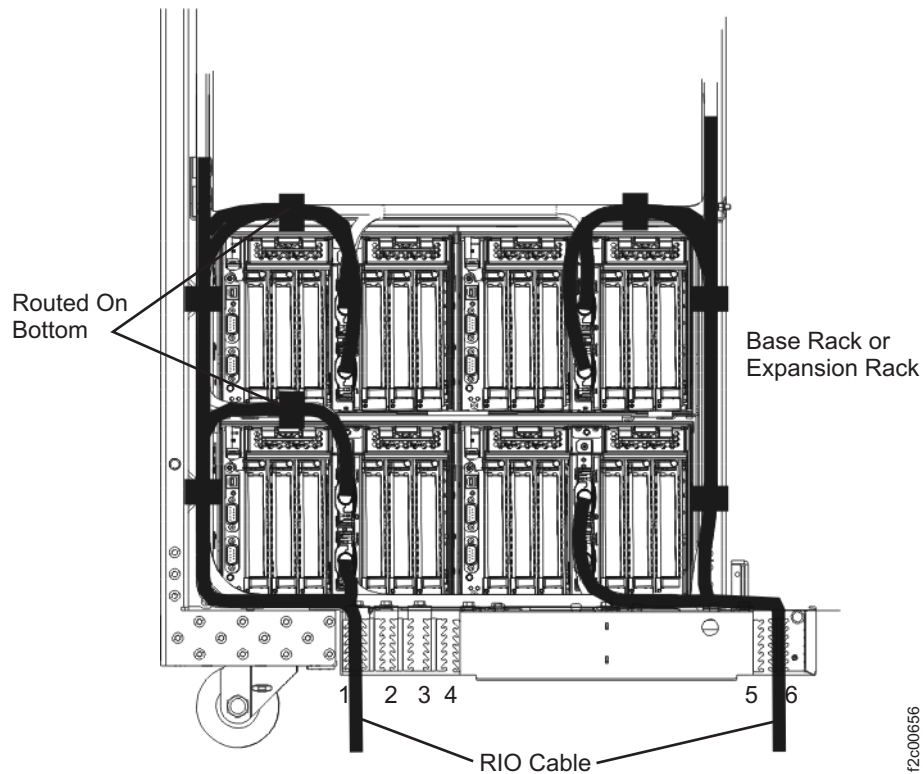

Figure 28. RIO cable routing through the tailgate (later version tailgate)
- Route the RIO cables on the left side of the rack through slot 1. See Figure 28 on page 32.
- Route the RIO cables on the right side of the rack through slot 6. See Figure 28 on page 32.